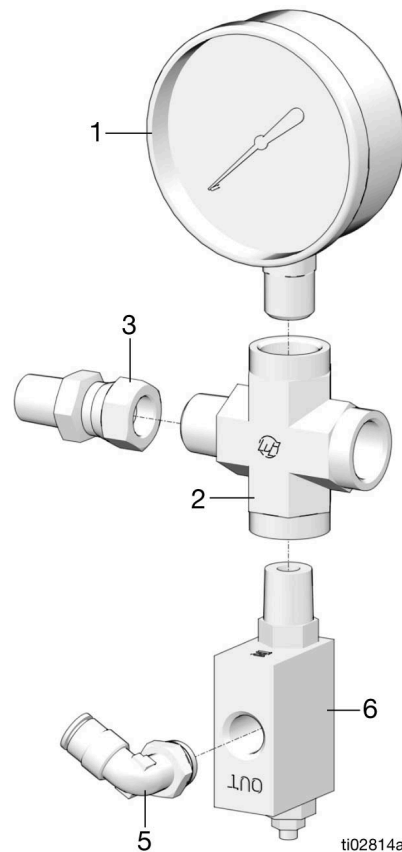

FIG. 10
7. Apply thread sealant (user supplied) to threads (b) of pressure relief valve (6).
8. Install pressure relief valve (6) into cross fitting (2). Wrench tighten (FIG. 10).